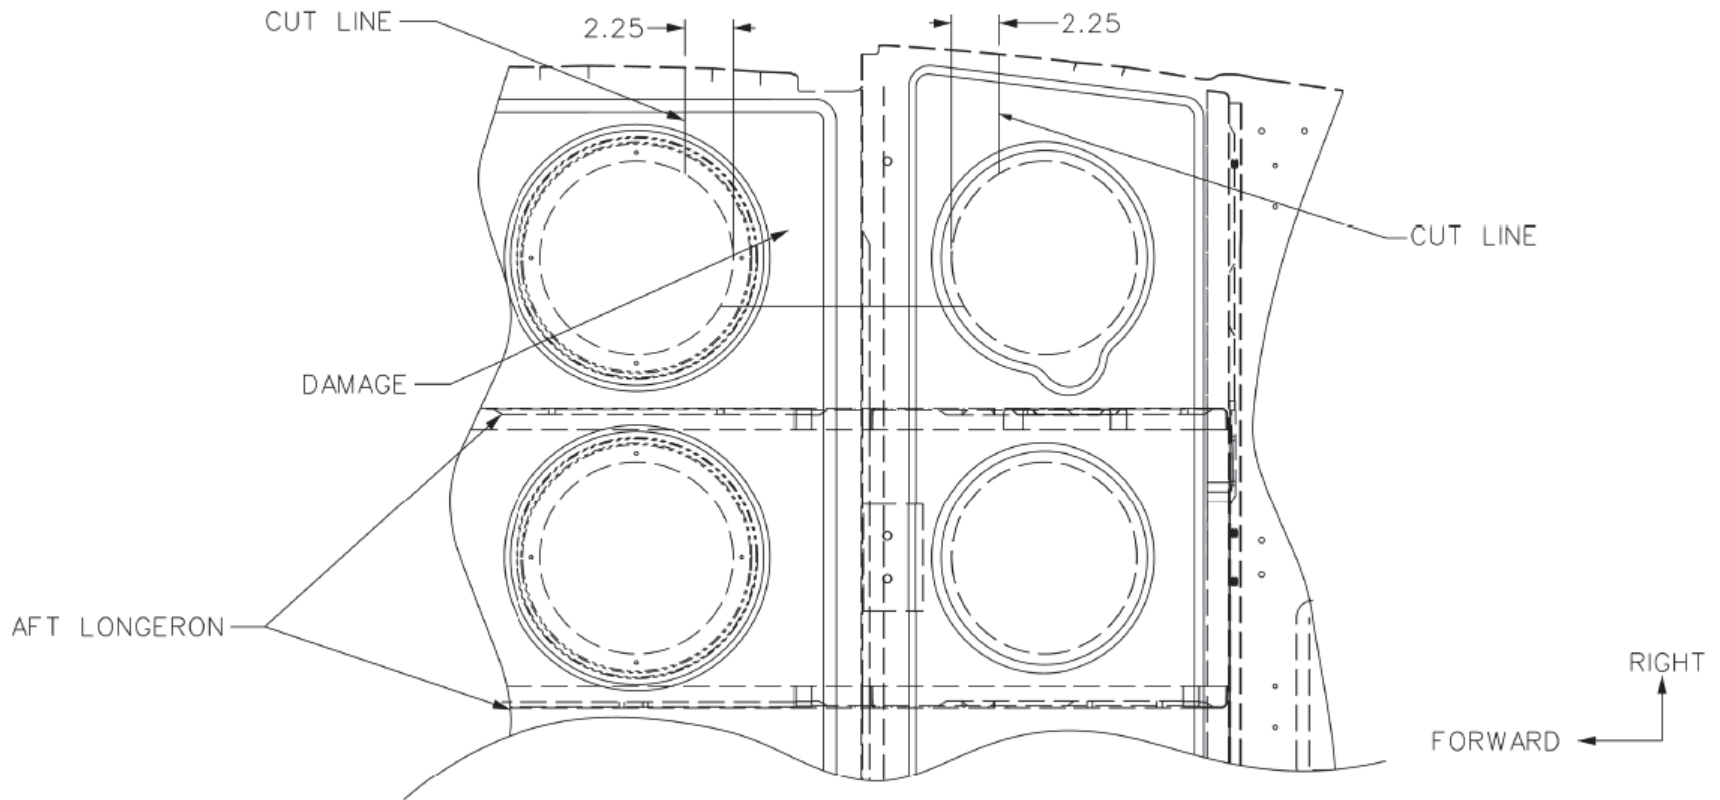

FIGURE 1
2. REMOVE DAMAGED SECTION OF AFT FLOOR. REFER TO FIGURE 1.
- A. CUT THROUGH FULL THICKNESS AFT FLOOR WHERE SHOWN IN FIGURE 1.
- A. TRIM AFT FLOOR REPAIR SECTION TO FIT INTO OPENING IN FIGURE 1.